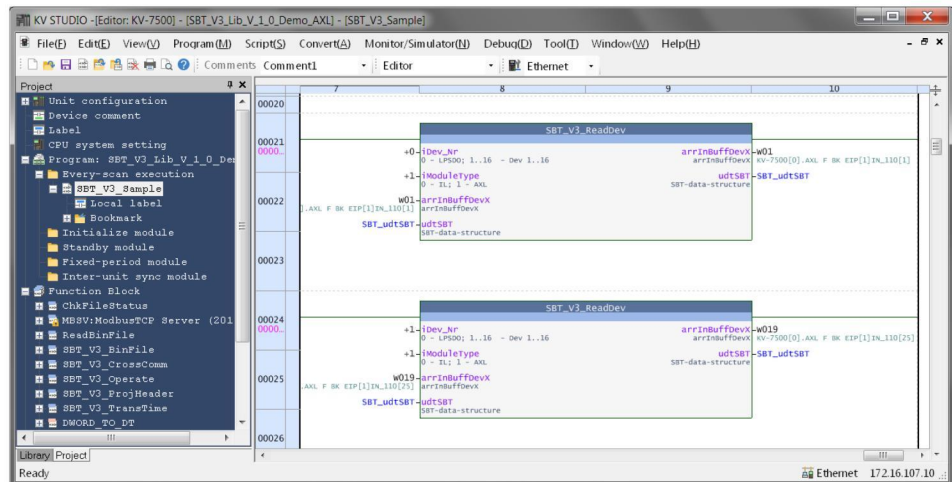

Figure 4-23 Function block SBT\_V3\_ReadDev
- Connect the function blocks as shown in Figure 4-23.